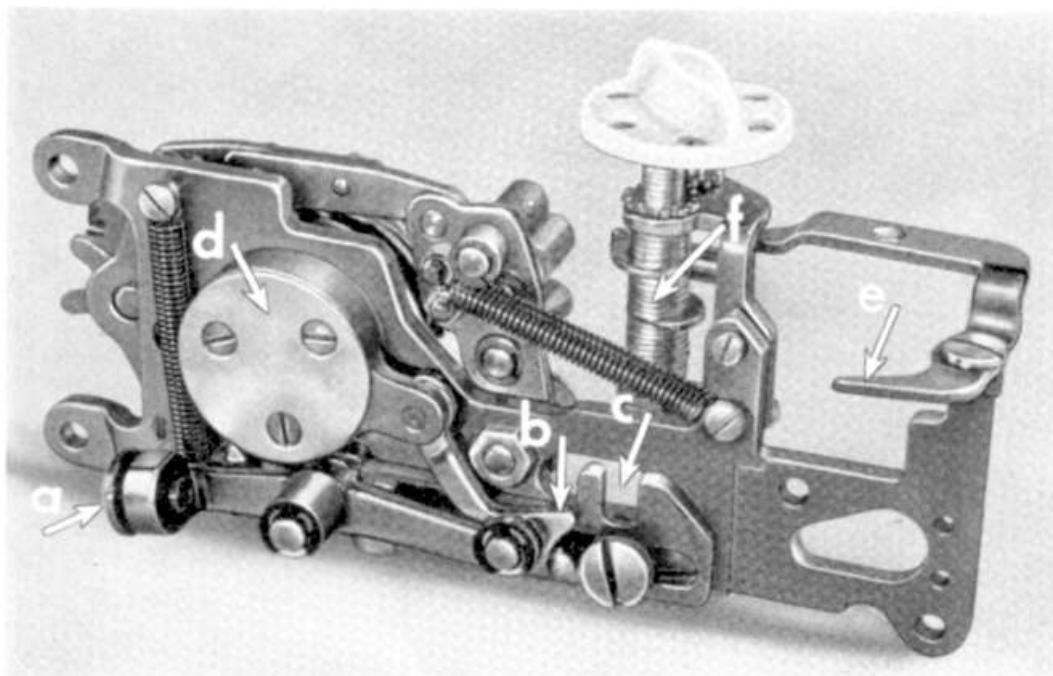
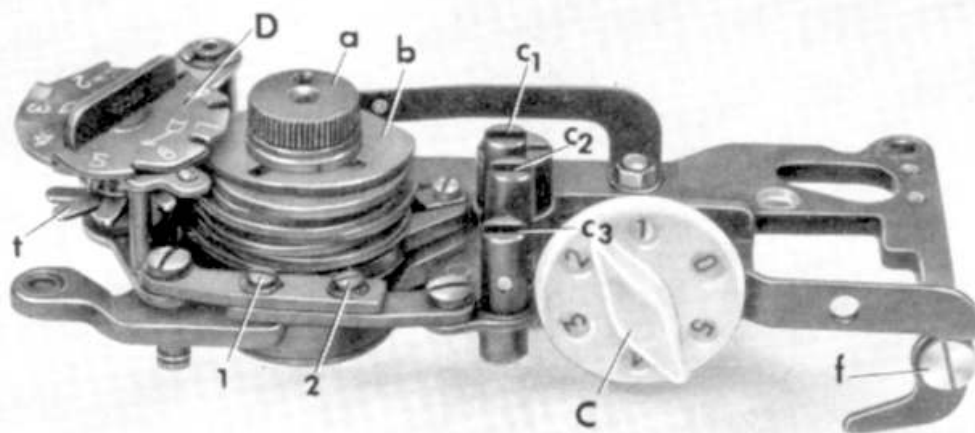

Fig. 109 Underside of the automatic embroidery mechanism
Fig. 111 Automatic embroidery mechanism, ready for installation
Having made sure that the position of the driving eccentric on the arm shaft is correct, take the automatic mechanism in your left hand (in the position shown in Fig. 111) and, with the index finger of your left hand, push against the protruding end of the driving lever which carries the driving roller. Push regulating
slide c (Fig. 109) to the left until nose b of the connecting lever is positioned slightly behind the stop pin on the regulating slide, as shown in Fig. 109. If the regulating slide is pushed too far to the left, it will strike against the needle bar frame pitman.
Thus prepared, the automatic embroidery mechanism can be installed into the machine without any difficulty. It is secured in position by three screws. Make sure that disengaging lever e (Fig. 109) lifts the two forward engaging levers, without binding, when you turn stitch width dial A. Also check
- a. whether the top contact finger of contact finger assembly D (Fig. 111) is located below the red mark when dial D is turned so that number 1 is opposite this mark, and
Turn regulating screws 7 so far in or out that the springs exert just enough pressure to cause the engaging levers to slide down securely over the pins in clutch studs c 1, c 2, and c 3 (Fig. 111).
The improved automatic embroidery mechanism features a disengaging lever (e in Fig. 109) and a cam stud with three cams (located to the rear of engaging lever dial C; Fig. 111). It is so designed that the controls will not jam if they are set in a sequence other than the one given on the design selector wheel. (This advantage is not yet present in earlier models of the Pfaff 260-261).
Set cam selector dial D (Fig. 111) on "4" and turn the cam assembly clockwise, seizing it by the thumb screw, until the fourth contact finger (from the bottom) is opposite the recess, or lowest point, on the rim of the cam opposite. This basic setting is the same for adjusting all three engaging levers. If, in rare instances, an engaging lever cannot be brought to fit over the pin in the clutch stud opposite by turning its eccentric stud, loosen screws 1 and 2 (Fig. 111) and lengthen or shorten the two-part connection slightly.